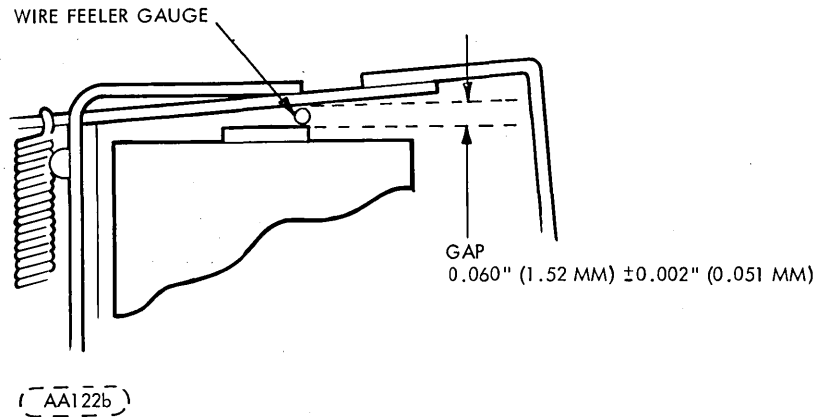

Figure 6-14. Solenoid Adjustment
- c. Using a 0.060 inch (1.52mm) wire feeler gauge, insert the feeler gauge in the gap between the underside of the clapper and the coil core. (See Figure 6-14)